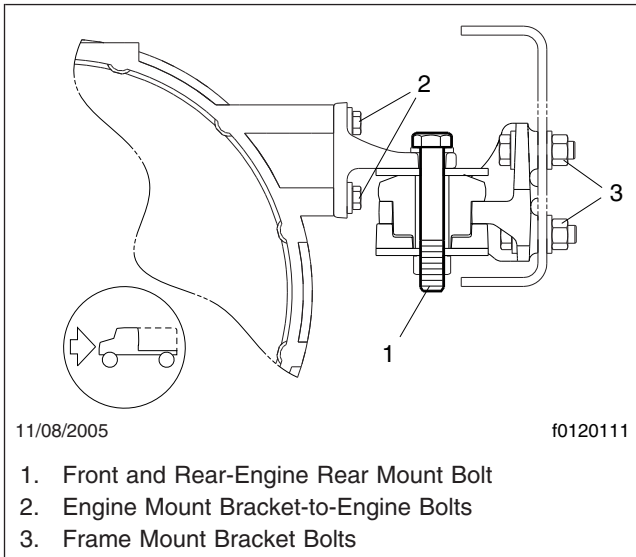

Fig. 3, Front and Rear-Engine Rear Mount (ISB chassis built after 2002)
1. Check the rear engine-support fasteners. See Fig. 3. Tighten the rear engine-mount bolt 157 lbf·ft (213 N·m).